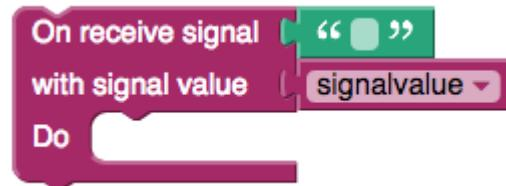

Figure 149: Receive Signal Block
*Receive signal* (Figure 149):